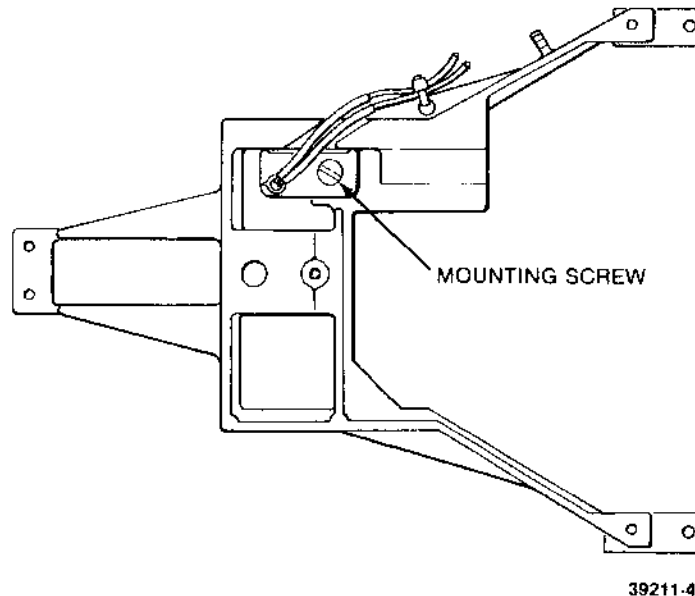

FIGURE 6-7. INDEX DETECTOR
- h. Loosen mounting screw in index detector block until assembly is just able to be moved. See figure 6-7.